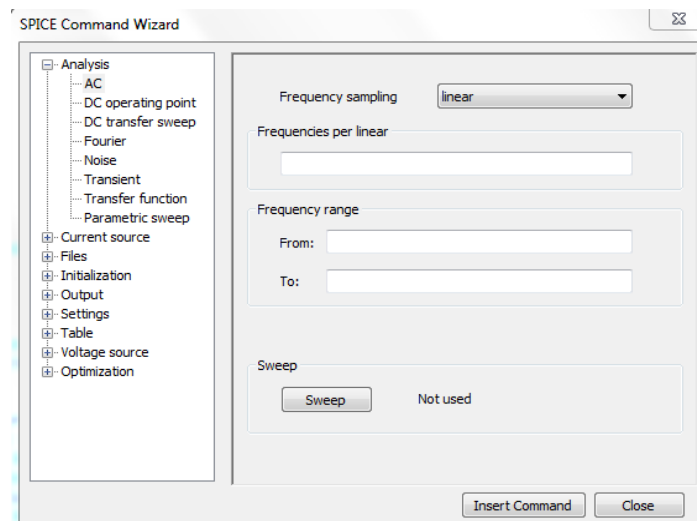

Figure 72: Customizing the AC analysis
- ☑ Choose **decade** for **Frequency sampling type**, set **Frequencies per decade** to **500**, **Frequency range From** to **10k** and **Frequency Range To** to **100k** (Figure 72).